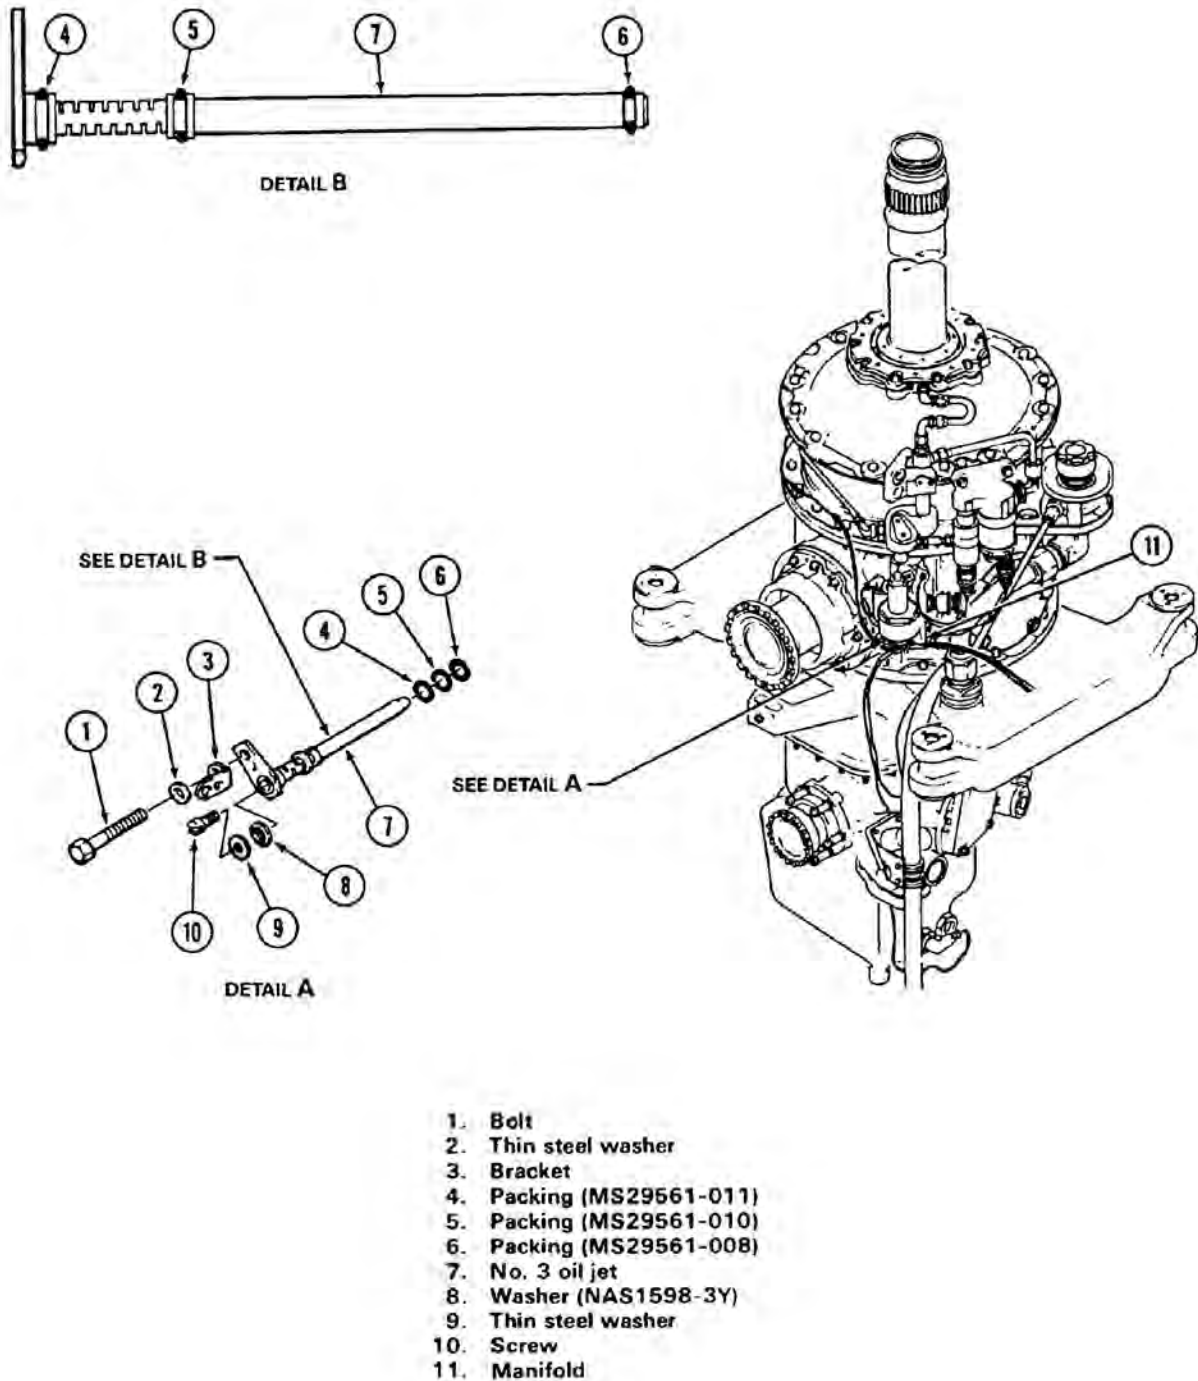

Figure 63-29. Transmission Oil Jet No. 3
63.5.13.1.1 Remove bolt (1, Figure 63-29), washer (2), and bracket (3).
63.5.13.5.1 Install screw (10, Figure 63-29) with washers (8 and 9) on jet (7).